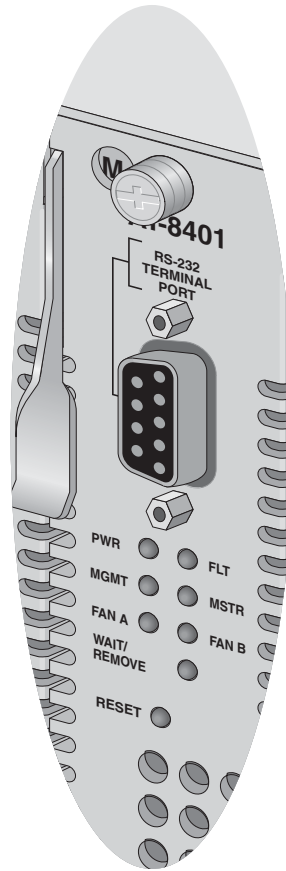

Figure 14 AT-8401 Management Card LEDs
2. Examine the LEDs on the AT-8401 management card. See Figure 14 on page 26.